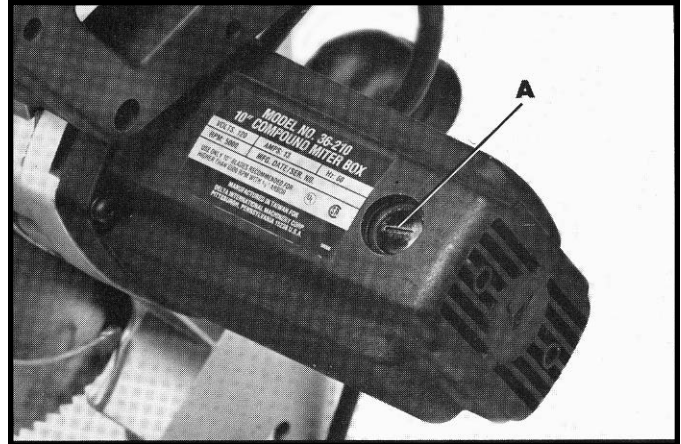
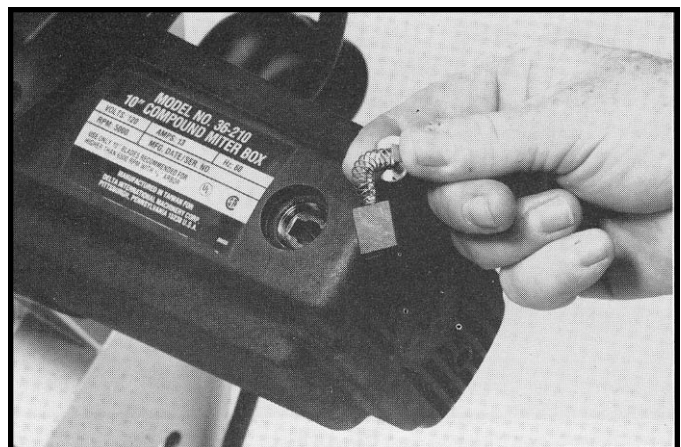

Fig. 50
Fig. 51
The brush holders (A) Fig. 50, are located on the motor housing opposite each other. Fig. 51, illustrates one of the brushes removed for inspection. When the carbon on either brush is worn to 3/16" in length or if either spring or shunt wire is burned or damaged in any way, replace both brushes. If the brushes are found serviceable after removing, reinstall them in the same position as removed.